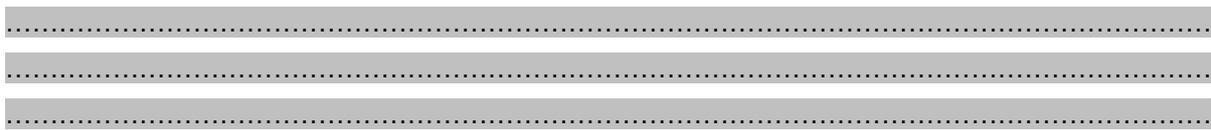

Fig.9
- Do you use an unpaved shoulder (see Fig. 9)?